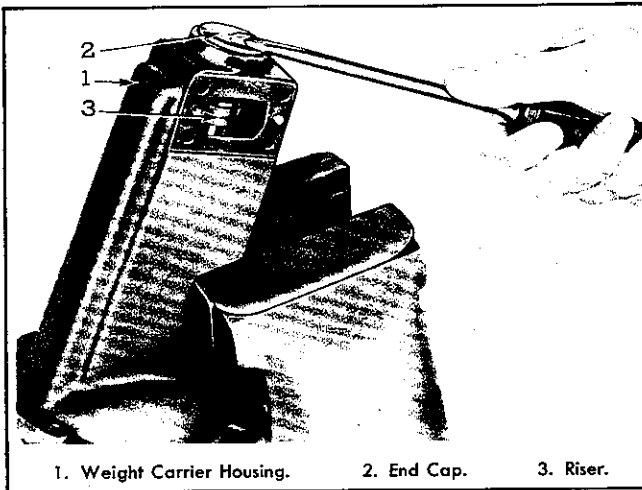

Fig. 14—Removing End Cap from Governor Weight Housing. (Early Models.)
1. Support the governor weight housing in a vise and remove bearing cap by driving a screwdriver through cap and prying from place. (See Fig. 14.)